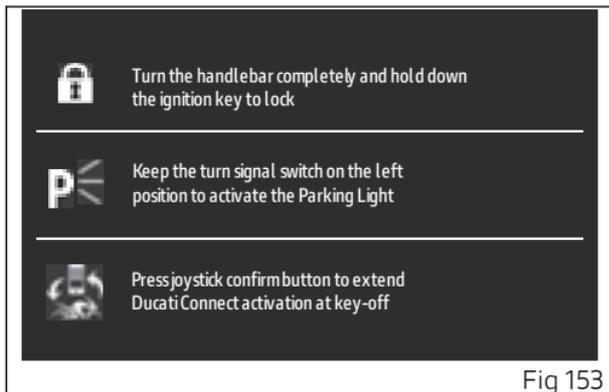

Fig 153
If you want to engage the steering lock, after performing key-off by shortly pressing the button, when the screen (Fig 153) is displayed, fully turn the handlebar and press and hold the button (1) again for 2-3 seconds.
If you want to switch on the parking light while the screen (Fig 153) is displayed, press and hold button (2) on the left turn indicator.
If you want to extend the duration of the Ducati Connect connection, press the joystick in ENTER position (3) while the screen (Fig 153) is displayed. After this operation, an activation confirmation message will be displayed on the instrument panel. The connection remains active for other 20 minutes.